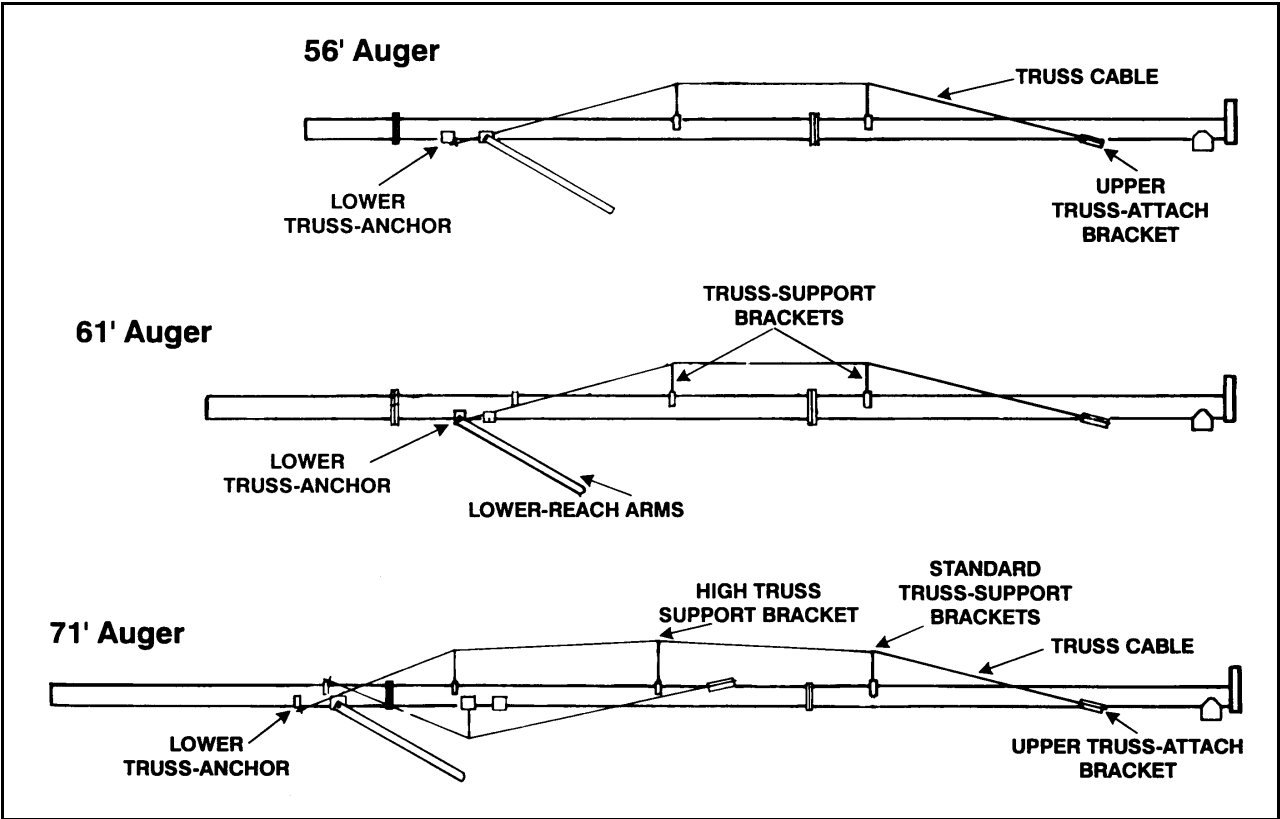

Figure 3.13
- ➔ • On 6" x 61' augers, fasten lower truss anchor to 10' lower tube section. (See Figure 3.13 for location.)
- ➔ • The 71' auger requires a high truss support center bracket located between the two standard support brackets. Fasten with two 7/16" x 1" bolts and locknuts. See Figure 3.13 for correct placement.